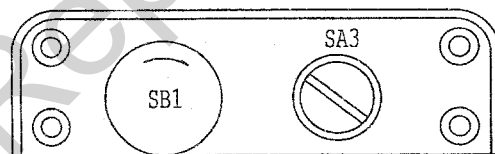

Fig2
- Step the foot-pedal plate when the main motor is running to make the normally opened contact of inner foot-pedal switch SQ6 (SQ7) closing, normally closed contact opening, KM1, KM2 un-magnetizing and being released, the time-delay relay KT2 magnetizing and sucking-on, to make the magnetic clutch YC with normally opened contact sucking-on to realize the spindle braking. Stepping the foot-pedal braking has nothing to do with the status of the black knob SA3 on the carriage (see Fig. 2).
- Turn the black knob SA3 on the button panel of carriage (see Fig. 2) right to "VALID" status, the normally opened contact of SA3 will be closing, then shift the control handle to the neutral position, pressing on the travel switch SQ5 to switch off the travel switches SQ3, SQ4 for forward/reverse directions, KM1, KM2 un-electrifying and being released, the time-delay relay KT2 electrifying and sucking-on, the magnetic clutch YC with normally opened contact sucking-on to realize the spindle braking. If braking time is selected for 4 seconds, the normally opened contact of KT2 delays to open for 4 seconds later, the magnetic clutch YC will be un-magnetized and being released.
- Turn the black knob SA3 on the button panel of carriage (see Fig. 2) left to "INVALID" status, the normally opened contact of SA3 will be opening, the electromagnetic clutch YC cannot suck on. Shift the control handle to the neutral position pressing on the travel switch SQ5 to switch off the travel switches SQ3, SQ4 for forward/reverse directions, KM1, KM2 un-electrifying and being released, the main motor will freely stop.